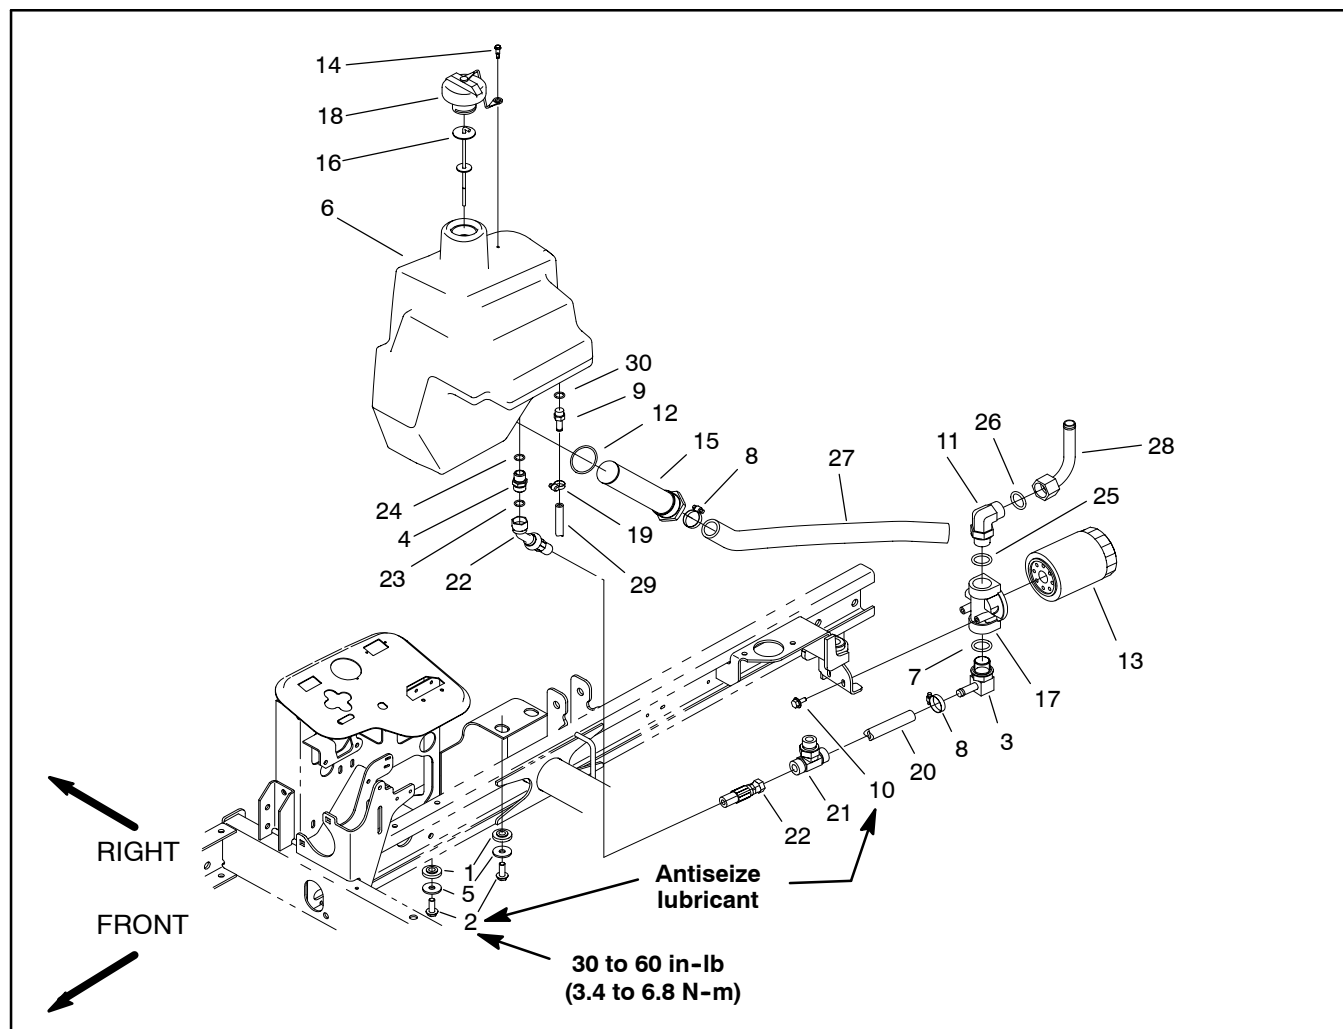

Figure 33
Hydraulic Tank Removal (Fig. 33)
3. Remove hydraulic tank using Figure 33 as a guide. Discard and replace any o-rings that are removed.
Hydraulic Tank Inspection (Fig. 33)
Hydraulic Tank Installation (Fig. 33)
1. Apply antiseize lubricant to the four (4) flange head screws that secure the hydraulic tank to the frame.
2. Position hydraulic tank to machine. Secure tank to frame with four (4) flange head screws, flat washers and grommets. Torque screws from 30 to 60 in-lb (3.4 to 6.8 N-m).
3. Attach fittings with new o-rings and hoses to hydraulic tank using Figure 33 as a guide.